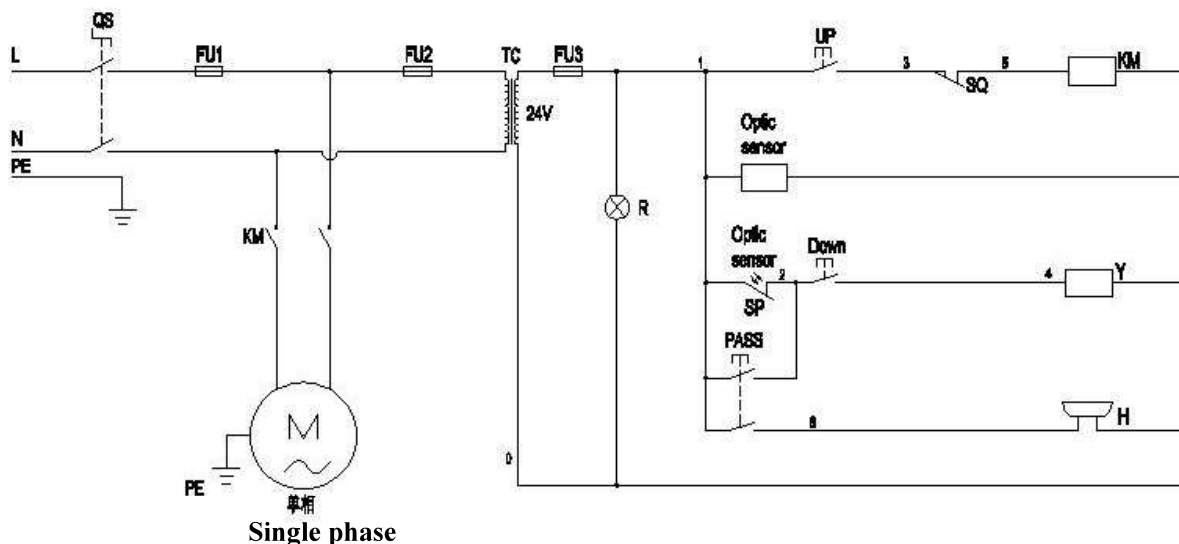

Fig.20
2.3.220V circuit diagram (see Fig.20)